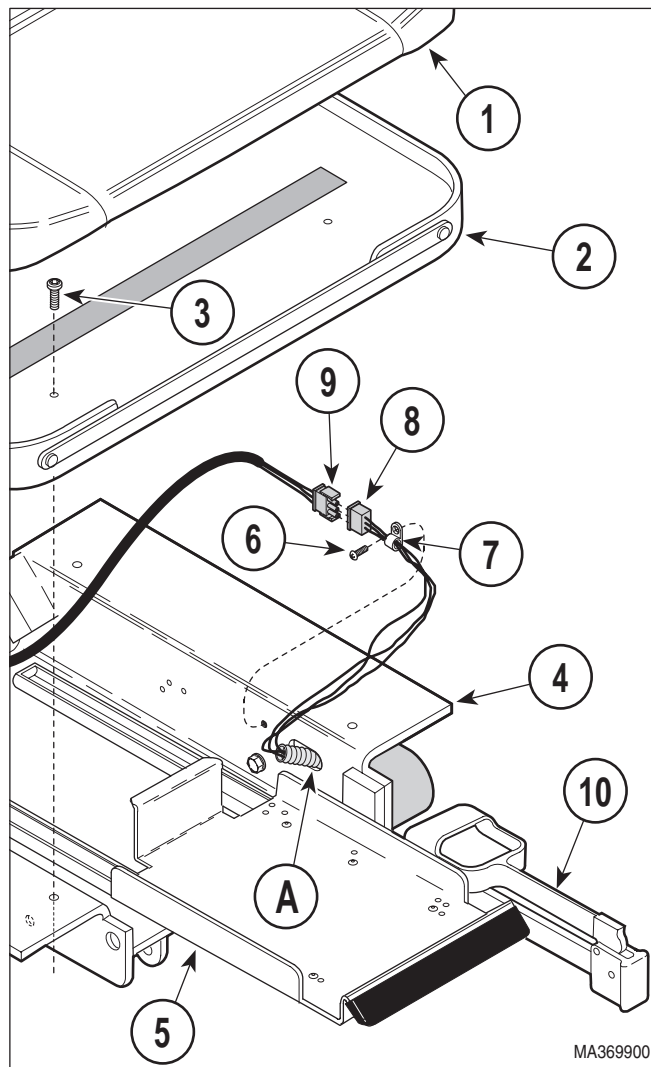

Figure 4-49. Foot Sensor Harness Disconnection / Connection
- (1) Lower FOOT DOWN function all the way down.
- (2) Unplug table power cord from outlet receptacle.
- (3) Remove upholstered seat (1, Figure 4-49) from seat board (2).
- (4) Remove four screws (3) and seat board (2) from seat weldment (4).
- (5) Pull treatment pan slide (5) all the way out.
- (3) Set multimeter to VDC setting. Then, set the voltage range of the multimeter to the 0-20 VDC range.
- (4) Feed foot sensor harness (8, Figure 4-49) thru wire slot (A) in seat weldment (4).
- (5) Connect foot sensor harness (8) to harness (9).
- (6) Secure foot sensor harness (8) to seat weldment (4) with cable clamp (7) and screw (6).
- (7) Push treatment pan slide (5) all the way into its stowed position.
- (8) Plug table power cord into outlet receptacle.
- (9) Raise FOOT UP function all the way up.
- (19) Raise the FOOT UP function all the way up (until foot actuator freewheels). The multimeter reading should be approximately 0.50 VDC \pm 0.2 VDC and no dead spot should be observed. If not, repeat entire procedure.
- (20) Remove multimeter leads from TP4 (A) and TP7 (B) of PC control board (12).
- (21) Install foot sensor cover (2) on seat weldment (13) and secure with screw (1).
- (22) Slide L.H. stirrup (10, Figure 4-49) back into stowed position.
- (23) Coat threads of four screws (3) with removable threadlocking adhesive (Loctite 242).
- (24) Install seat board (2) on seat weldment (4) and secure with four screws (3).
- (25) Install upholstered seat (1) on seat board (2).
- (26) Unplug table power cord from outlet receptacle.